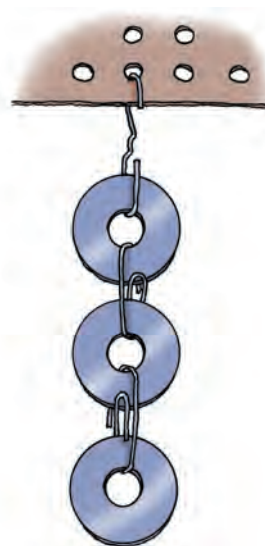

Figure 13.2 Washers connected with paper clips
3. In this inquiry, you will hang washers on the arms of a lever and balance the lever. Figure 13.2 shows how to connect washers with paper clips when hanging them on the lever arm. Use a paper clip on each washer.